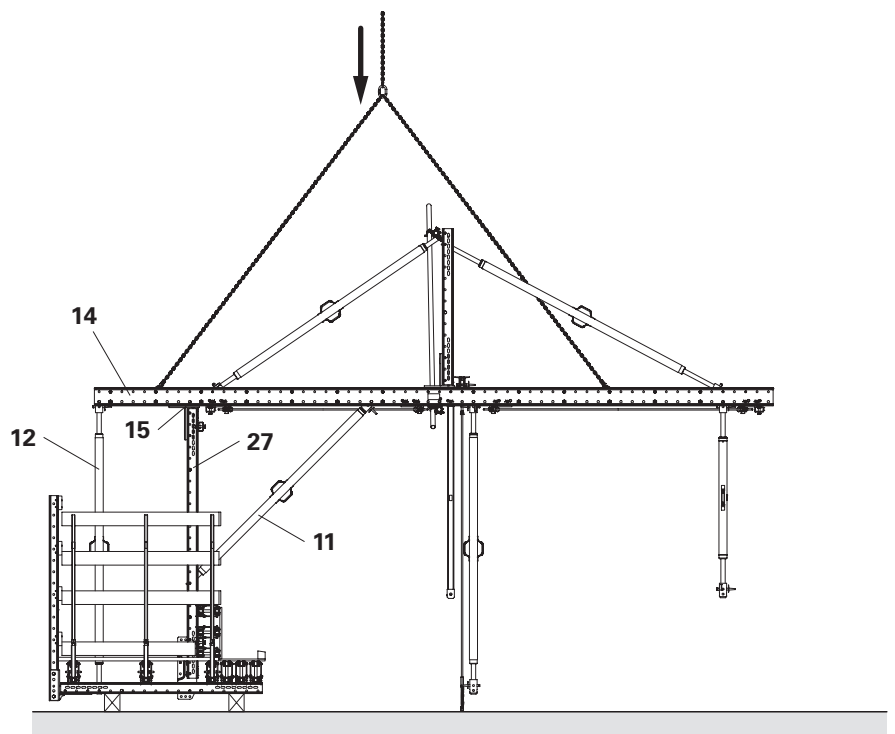

Fig. E1.04
6. Remove the bolts from the Heavy-Duty Spindle SLS (11) on the Steel Waler SRU (27).
7. Remove the bolts from the Heavy-Duty Spindle SLS (12) and Elbow Connection RCS/SRU (15) on the Climbing Rail RCS (14).
8. Dismantle the concreting platform. (Fig. E1.04)